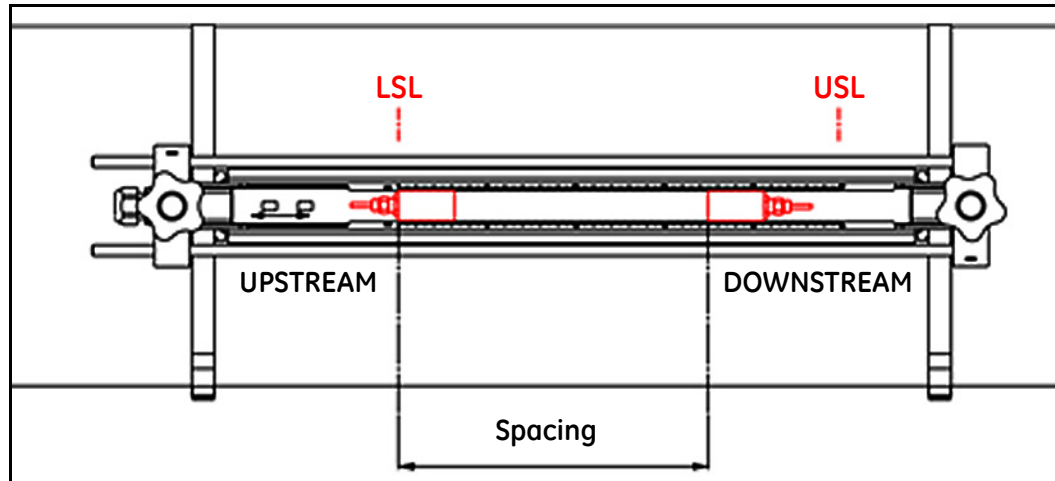

Figure 14: Installation for 2 Traverses with 1 Fixture
- See Figure 14 below for an example of a completed installation. In this drawing, **LSL** is the *Lower Specified Limit* and **USL** is the *Upper Specified Limit* for the installation.